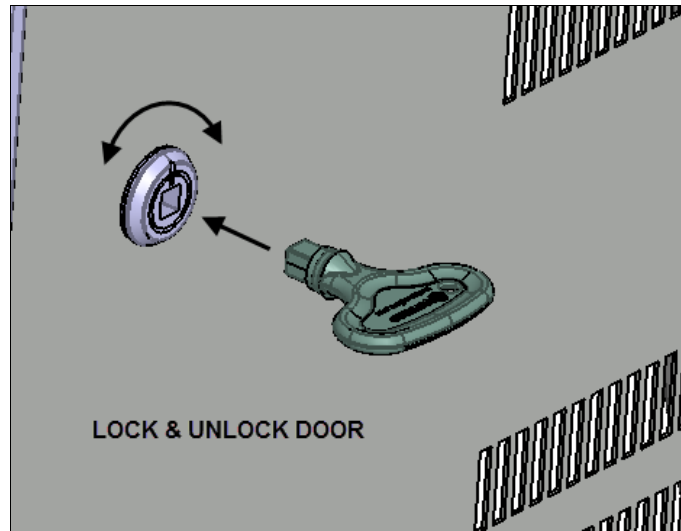

FIG.15 CHECKING DOOR LOCK MECHANISM FUNCTION
15. Open and close the door and ensure that the door and door locking mechanism are working properly (Fig.15).